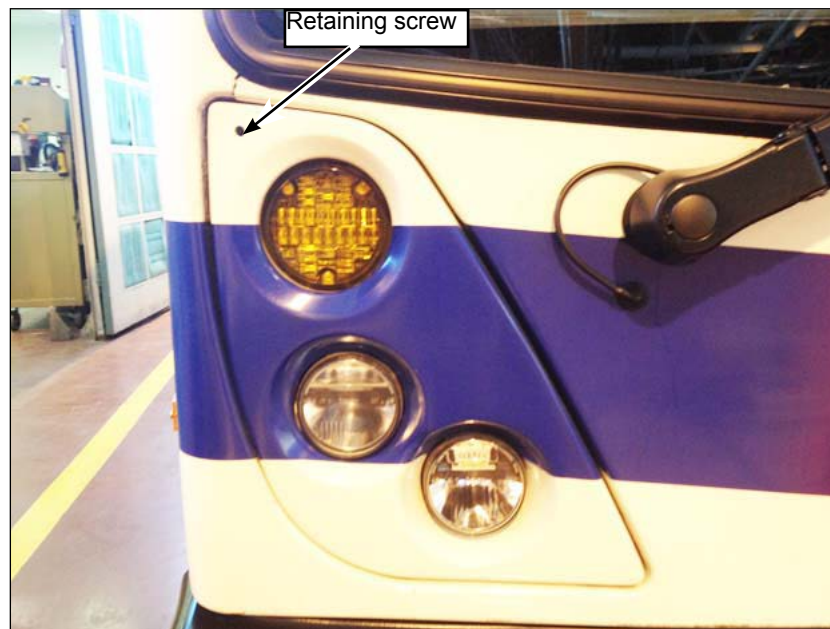

Figure 2 - Remove Headlight Bezel
- 1.2. Remove the headlight bezel by unscrewing the recessed retaining screw. This screw will unscrew but remains trapped in the bezel. The bezel can be removed by pulling the top out and then up. Retain the bezel for reinstallation once the repair is complete (see Figure 2).